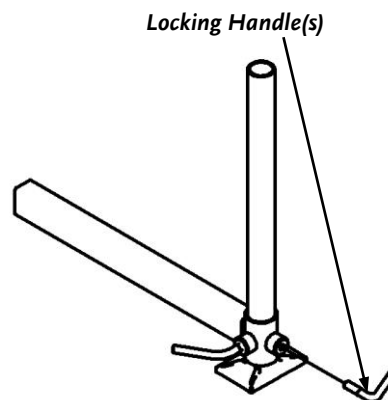
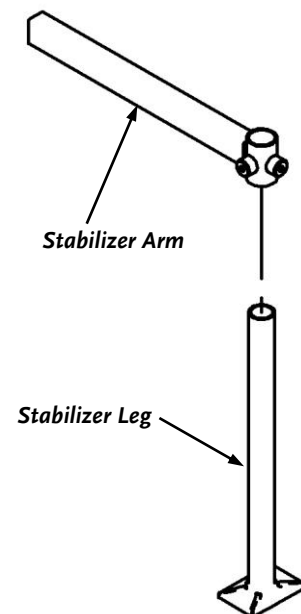

Figure 22
Figure 21
1. Slide the Stabilizer Legs (**Figure 21**) all the way into each Adjustable Stabilizer Arms and screw in and tighten the Locking Handles (**Figure 22**) to hold the Legs in place.